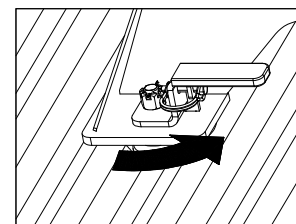

Figure C2: View of closed latch handle.
- 2. Prepare to adjust latch tension.** Once the base is in place, remove the cotter pins from each of the four castle nuts. Engage the cams with each attachment point by turning the latch handles back to their latched position, see Figure C2. If a handle will not turn easily, loosen the castle nut until the cam will freely turn and engage the attachment point.